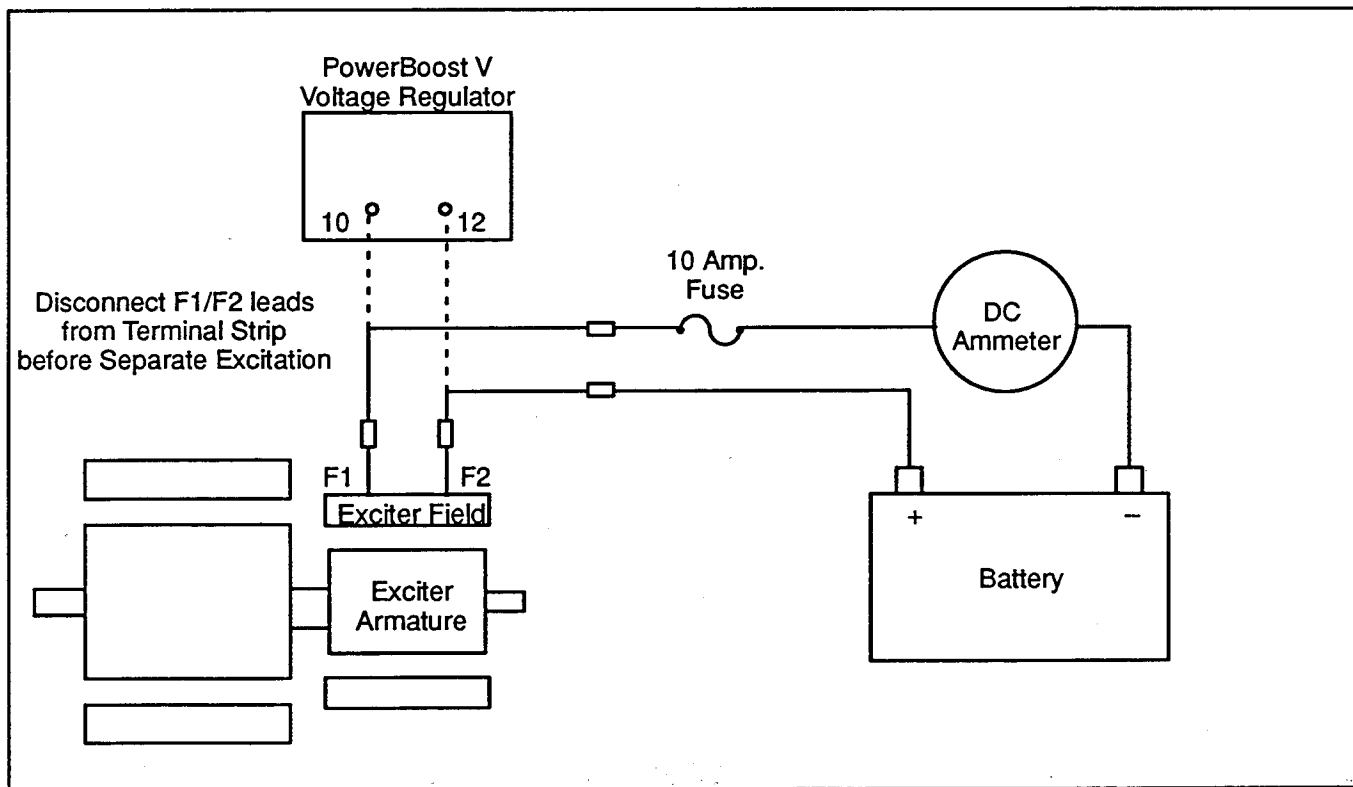

Figure 7-4. Separate Excitation Connections
3. Connect separate excitation circuit as shown in Figure 7-4. (Connect an ammeter and a 10 Amp. fuse in series with F1.) Note and record the ammeter reading.